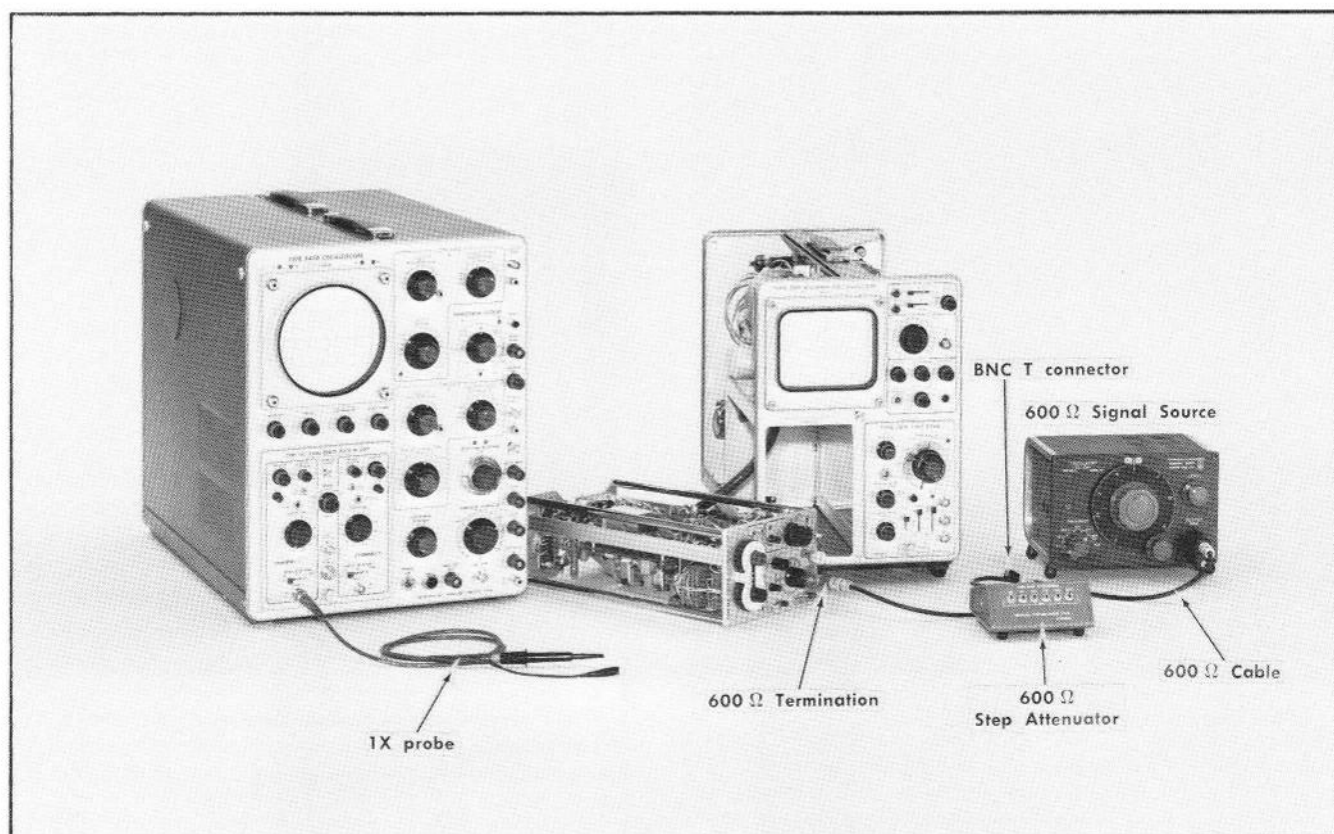

Fig. 6-13. Equipment setup to adjust Lin calibration, dynamic range of Log mode, and check output signal level at TO RECORDER jack.
- a. Equipment setup is shown in Fig. 6-13.